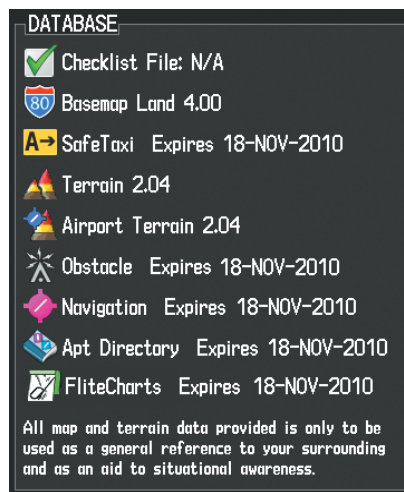

Figure B-6 Database Information on the Power-up Screen
- 4) Apply power to the system, check that the databases are initialized and displayed on the power-up screen (Figure B-6). When updating the terrain and FliteCharts databases, a 'Verifying' message may be seen. If this message is present, wait for the system to finish loading before proceeding to step 5.